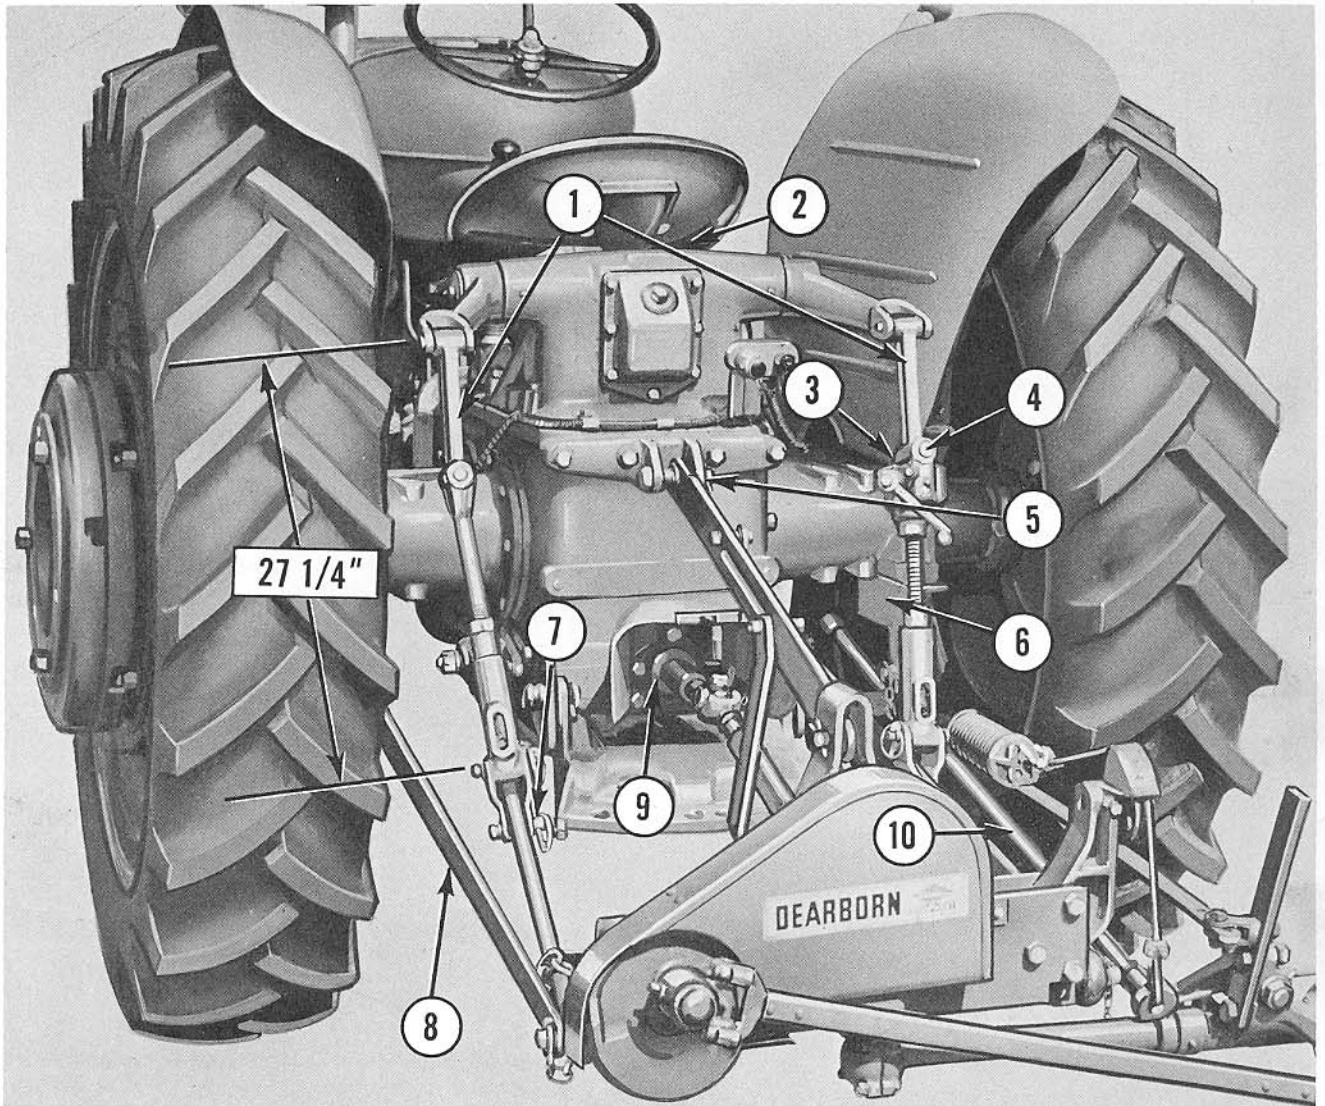

Figure 18
4. Attach the P.T.O. adapter (9), Figure 18, to the P.T.O. shaft with the $\frac{5}{16}$ " x $2\frac{1}{4}$ " bolt and nut provided.
6. Attach the right and left anchor brackets (6), Figure 18, as follows:
7. Attach the right and left arm extensions (1), Figure 18. Be sure to install the two short spacers (3) and (4) between the lugs on the leveling crank box.
8. Move the pin (7), Figure 18, to the center hole in the tractor lower links and adjust the linkage to $27\frac{1}{4}$ " as shown.
10. Install the top link and the spacers provided, to the tractor, and secure with the head pin (5), Figure 18, and cotter pin provided.
11. Attach the stabilizer link (8), Figure 18, and the pull bar (10) to the anchor brackets (6) as shown.
13. The transport rod should be carried under the tractor seat as shown at (2), Figure 18.
15. With the universal joints properly aligned, attach the splined end of the mower drive shaft to the P.T.O. shaft adapter as shown at (9), Figure 18, and secure with the pin and cotter pin provided.
2. Detach the splined end of the mower drive shaft from the tractor P.T.O. shaft adapter (9), Figure 18. Replace the pin and cotter pin in the mower drive shaft. Remove the P.T.O. shaft adapter from the tractor P.T.O. shaft and attach the P.T.O. cap to the tractor.
7. Remove the stabilizer bar (8), Figure 18, and detach the tractor left lower link from the mower main frame. Detach the right lower link from the mower main frame and replace the linch pins in their holders.
8. Detach the mower pull bar (10), Figure 18, from the right hand anchor bracket (6) and replace the linch pin.
10. Remove the lift link extension arms (1), Figure 18, and the spacers (4) from the tractor and replace the knuckles provided between the lift arms and the leveling rods.
11. Replace the drawbar, check chains, P.T.O. shaft cover and anchor brackets (6), Figure 18, on the tractor.
1. Remove the P.T.O. shaft cover and attach the P.T.O. shaft adapter (9), Figure 18, to the P.T.O. shaft.
3. Attach the right and left lift arm extensions (1), Figure 18. Be sure to install the two short spacers (4) provided.
4. Move the pin (7) to the center hole on the tractor lower links and adjust the linkage to 27 $\frac{1}{4}$ inches as shown.
6. Install the top link and spacers provided and secure with the headed pin (5), Figure 18, and cotter pin provided.
7. Attach the pull bar (10), Figure 18, and the stabilizer bar (8) to the anchor brackets (6) as shown.
8. Attach the splined end of the mower drive shaft to the P.T.O. shaft adapter (9), Figure 18.